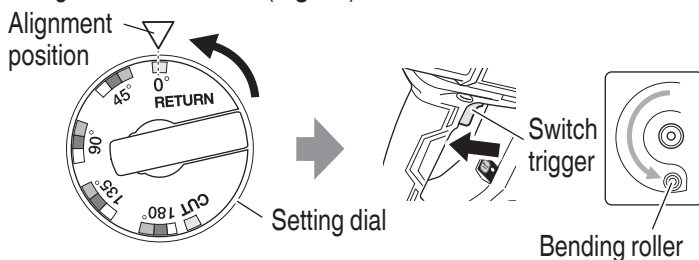

Fig. 17
- Set the setting dial on “RETURN” (Fig. 17)